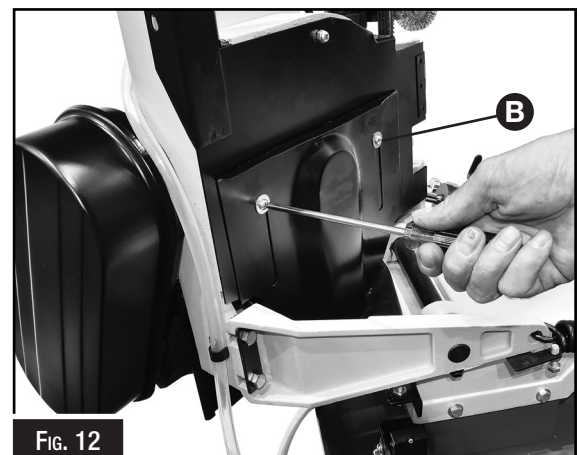

FIG. 12
4. After blade has been completely installed, close covers (B, Fig. 12), connect to the power source, and run saw for two to three minutes so blade can seat properly.
8. Close covers (B, Fig. 12) and connect machine to the power source.